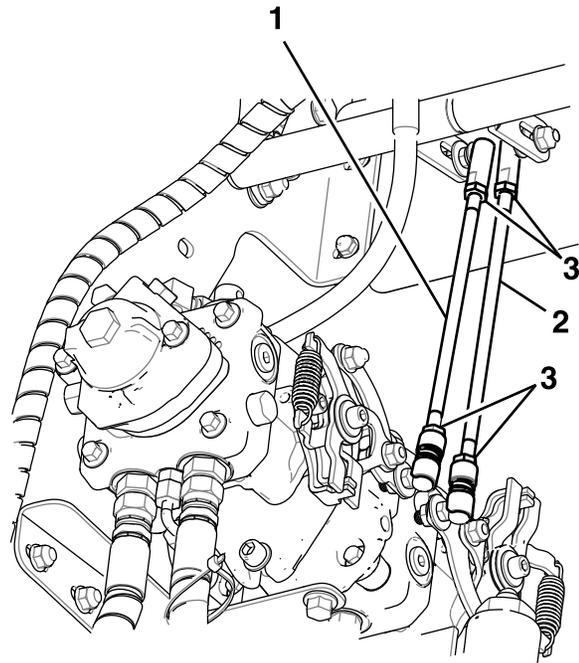

Figure 44
- Loosen the two jam nuts at the upper and lower ends of the ball joints as shown in Figure 44. To increase the gap, turn the control linkage counterclockwise. To decrease the gap, turn the control linkage clockwise.
- Loosen the two jam nuts at the upper and lower ends of the ball joints on the lever that needs to be adjusted (reference Figure 44).